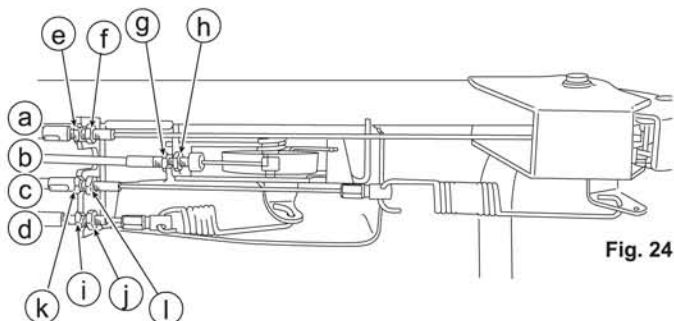

Fig. 24
8.5.1 Throttle Lever (See Figs. 24 and 25)
8.5.2 Blade Lever (See Figs. 24 and 26)
3. Confirm that the blade stops completely when Blade lever (C) is released.
8.5.3 Drive Clutch Lever (See Figs. 24 and 27)
3. Confirm that the machine can be pull backward when Drive clutch lever (B) is released.
8.5.4 Gearshift Lever (See Figs. 24 and 28)